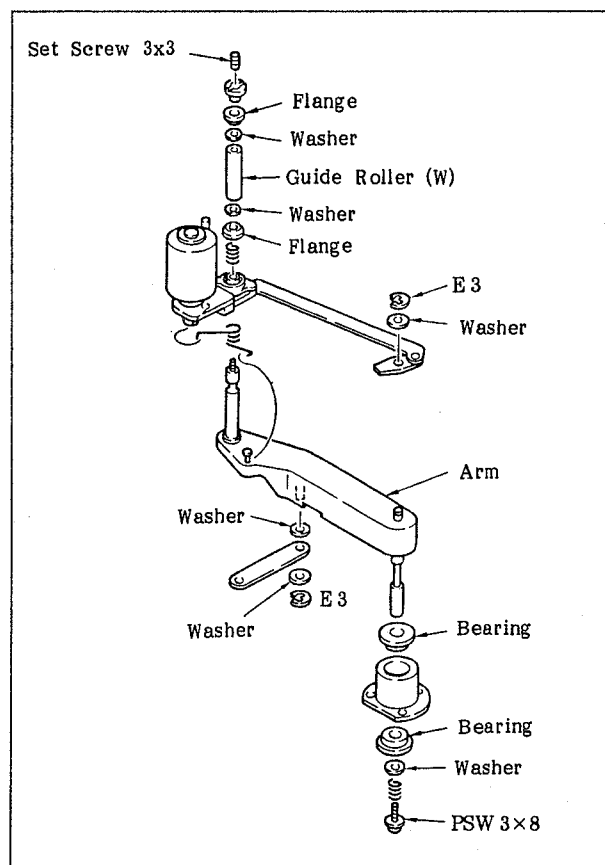

Fig. 6-113 Replacing the Arm
2. Remove the arm from the arm assembly by referring to Figure 6-113.